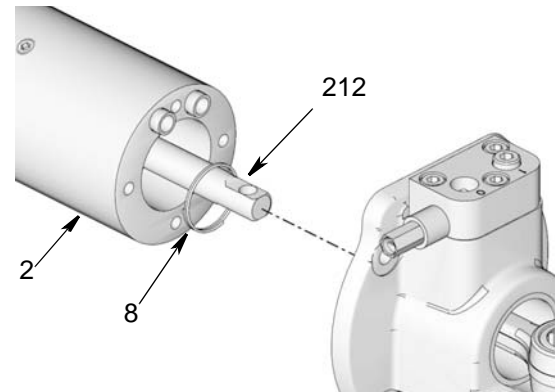

FIG. 27
12. Separate displacement rod (212) from connecting rod (102) and separate these sections. Put section (102) in a safe place. You will need it for reassembly. (FIG. 27).